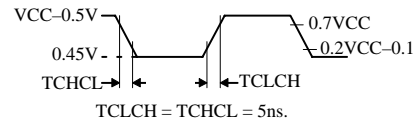

Figure 11 Clock Signal Waveform for ICC Tests in Active and Idle Modes
- Operating I_{CC} is measured with all output pins disconnected; XTAL1 driven with TCLCH, TCHCL = 5 ns (see Figure 11), V_{IL} = V_{SS} + 0.5V, V_{IH} = V_{CC} - 0.5V; XTAL2 N.C.; $\overline{\text{EA}}$ = RST = Port 0 = V_{CC}. I_{CC} would be slightly higher if a crystal oscillator used (see NO TAG).